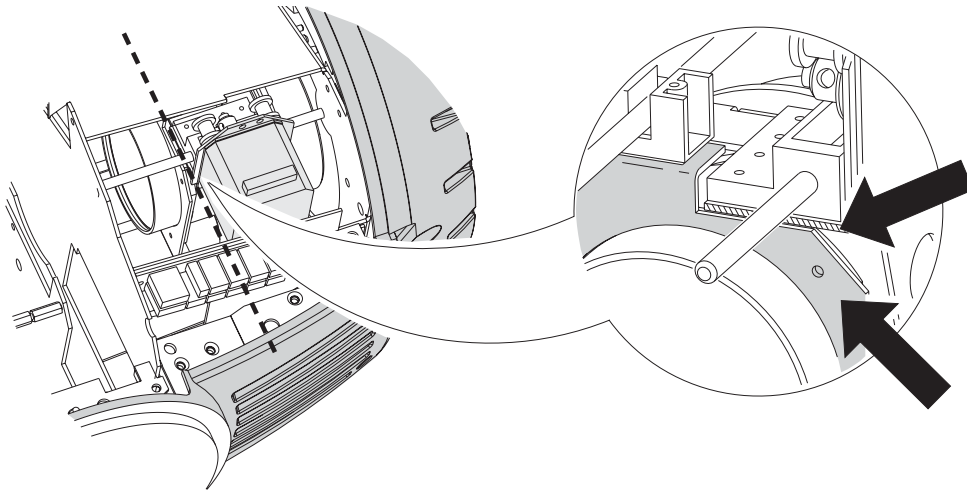

Figure 12: Zoom calibration point
- 2 To calibrate zoom, first remove the bottom head cover. Select `UTIL / CAL / ZOO F` and press [Enter]. Adjust the offset until the face of the zoom lens plate is flush with the back edge of the focus plate (Figure 12). Press [Enter] to save the setting. Replace the bottom head cover.